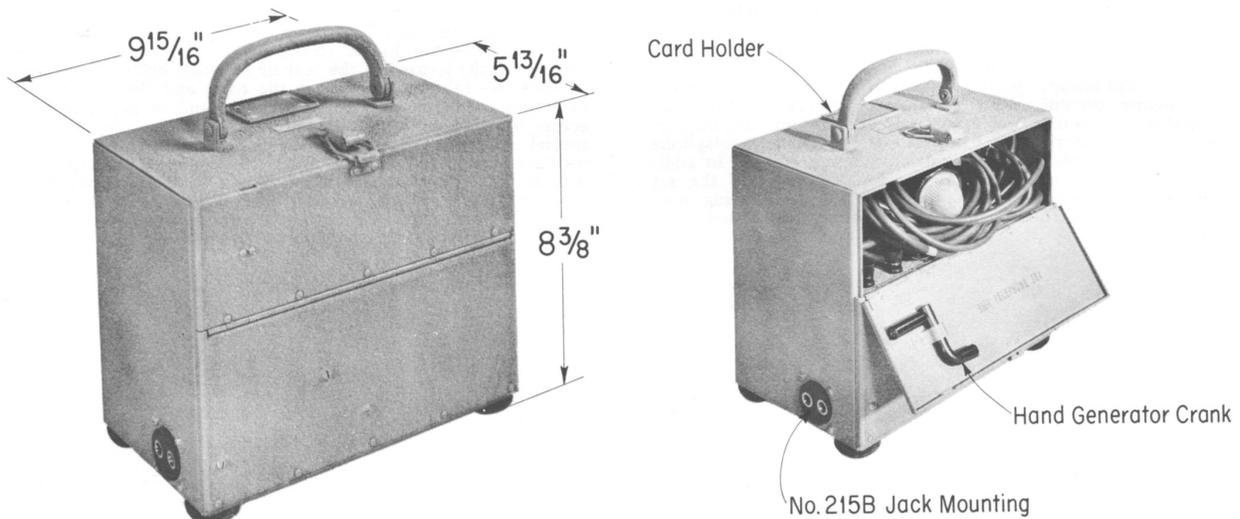

Fig. 1—Portable Magneto Telephone Set
2.01 The 331A Set consists of a gray green crinkle-finished aluminum box having a carrying handle, locking catch, and identification card holder mounted on the top. It contains a KS-13766 hand generator, dial ringer (less gongs) 104A induction coil, 195A condenser, a 21-type lamp indicator attached to a jacketed cord, a removable battery case which accommodates two KS-6522 flashlight dry cells, twin binding posts for line wire terminations and a ringer "On-Off" switch. In addition an F3S-3 push-to-talk hand set with a 12-foot jacketed cord terminated in a 289B plug is furnished as part of the set. A jacketed cord equipped with a 3-prong Hubbell plug is furnished to be used for connections from line terminating receptacles where wire attachments to the binding posts are not desired. A 215-type jack mounting appears at one end of the telephone set for external connection to either an F3S-3 hand set or a 52-type operator's head set, although the latter is not furnished with the set. On the opposite end an opening is provided for inserting the generator hand crank. (See Fig. 1.)